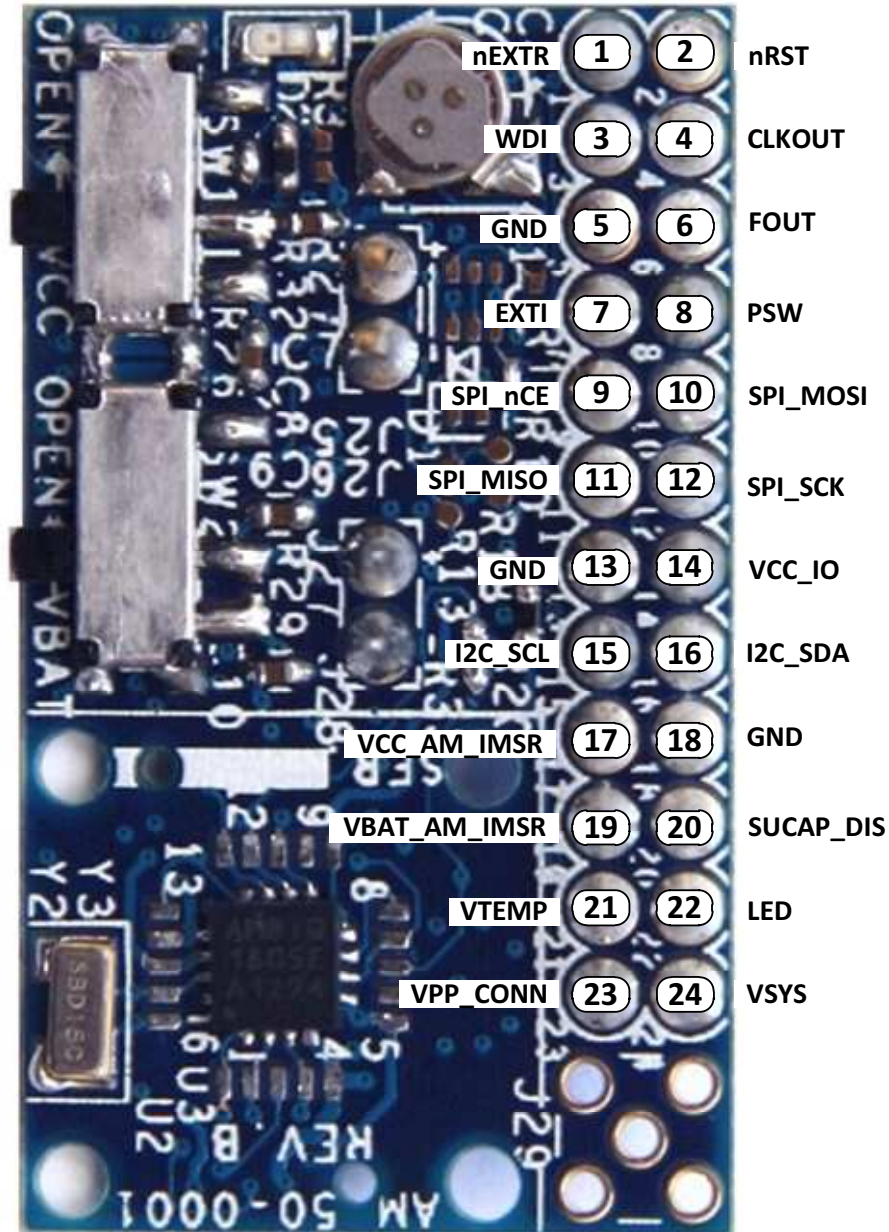

Figure 5 – 24 Pin Header Connector Pin-out
Figure 5 shows the location of the names and numbers each of the pins (pin-out) of the 24-pin header connector.
4. Connect the VCC, VBAT (if applicable), and VSS pins on the EVK connector to appropriate supply voltages. The VCC supply voltage should be connected to both VCC_AM_IMSR (pin 17) and VCC_IO (pin 14) (see Figure 5). The VBAT supply voltage should be connected to VCC_AM_IMSR (pin 19). The HC VCC and ABX8XX VCC supplies should be the same voltage.